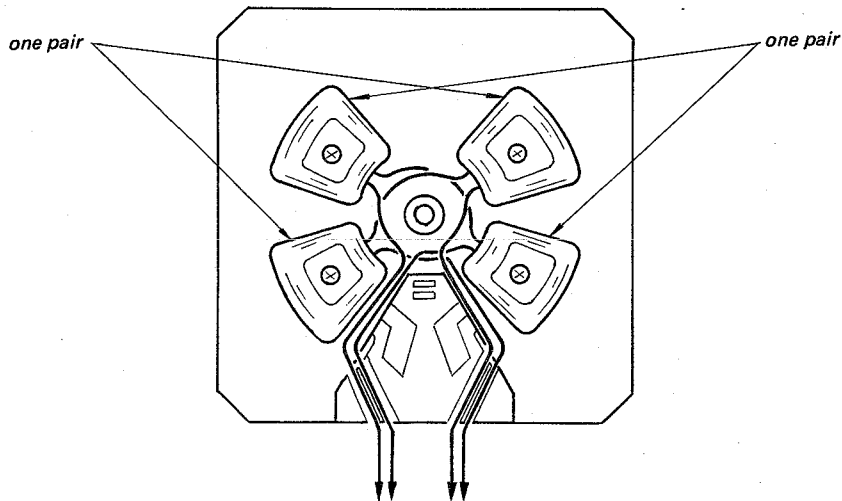

Fig. 2-16
- c). Lay the leads of the coils as shown in Fig. 2-16 and fix the leads in the slot between the portions marked by * in Fig. 2-17.